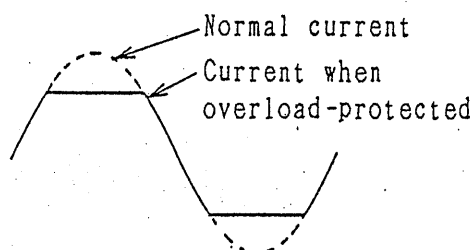

Figure 3-3-3
When the output current has gradually increased exceeding the rated output current (maximum allowable output current), the overload protector trips causing the OUTPUT switch to trip to cut out the output within several hundreds milliseconds. When the output current has sharply increased exceeding the rated output current, peaks of the sinusoidal output waveform are clipped (see Figure 3-3-3) and, in an extreme case (a case of heavy overloading), the POWER switch ② trips to shut down the equipment.